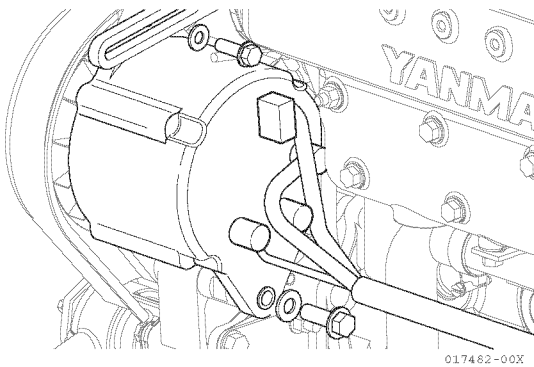

Figure 5-202
73. Connect the electric wires to the terminals before attaching the alternator to the gear case (Figure 5-202).